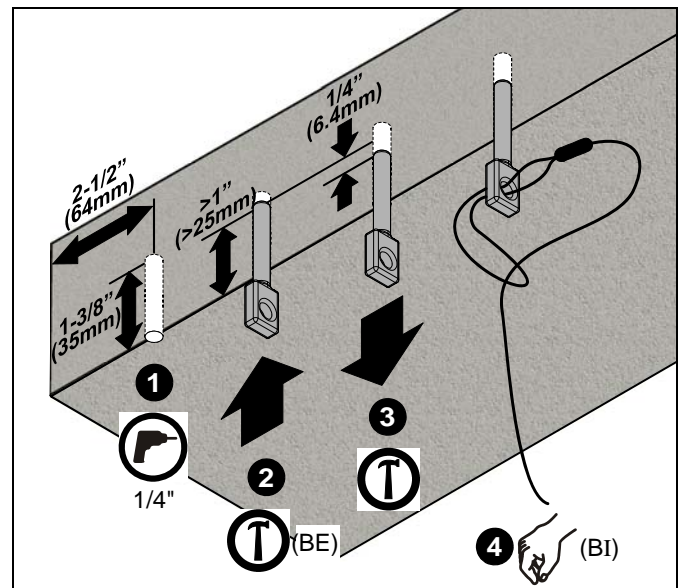

Figure 12
1. Drill 1/4" diameter x 1-1/2" deep hole at each marked cable anchor support location (See Figure 12). Ensure hole is at least 2-1/2" from nearest concrete edge. Remove debris from hole.
2. Tap anchor (BE) into each hole until the anchor head is seated in the hole. (See Figure 12)
3. Using claw portion of hammer, set each anchor (BE) by pulling it out of hole approximately 1/4" (6.4mm). (See Figure 12)
4. Insert portion of manufactured loop on cable (BI) through hole in anchor (BE). Insert end of cable (BI) through loop. Repeat for 3 remaining support locations. (See Figure 12)